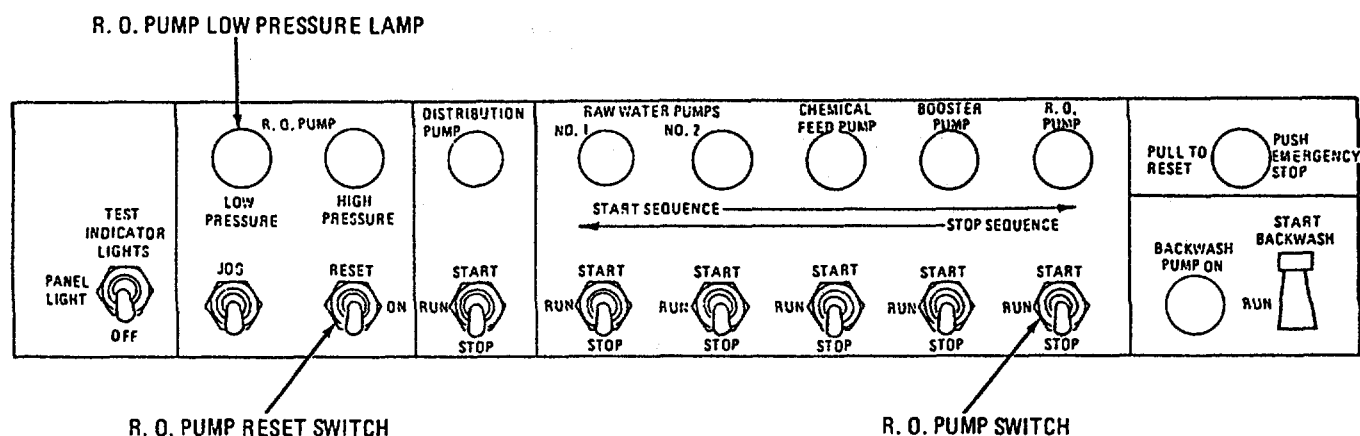

FIGURE 2-57. CONTROLS, R. O. PUMP
- (2) Set VENT PULSE DAMPENER valve to OPEN.
- (3) Push R.O. Pump RESET switch upward. R.O. pump LOW PRESSURE lamp goes OFF and switch returns to ON.
- (4) Hold R.O. PUMP switch (figure 2-57) upward to START.
- (5) As soon as R.O. PUMP lamp comes on, release switch.
- (6) Switch will return to RUN.